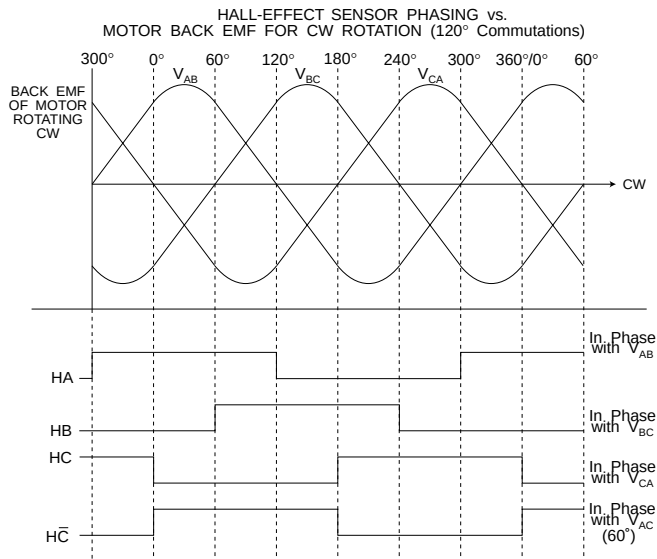

FIGURE 4. HALL PHASING
HC must be inverted as shown in FIGURES 4 and 5. In FIGURE 4, the Hall sensor outputs are shown with the corresponding voltage they are in phase with.
** DIR is based on the convention shown in Figure 4. Actual motor set up might be different.